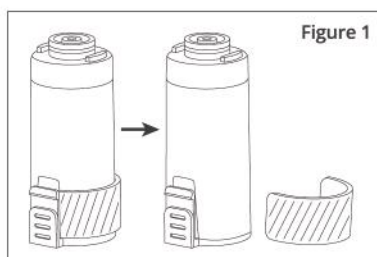
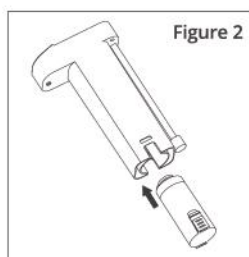

Figure 1
Figure 2
- Remove the filter package and the paperboard (Figure 1), align buckles of the filter to notches of the water pumping unit, and insert a new filter (Figure 2). After the new filter is installed in place, the bottom of the filter is aligned with that of the water pumping unit, and there may be a slight mechanical sound.